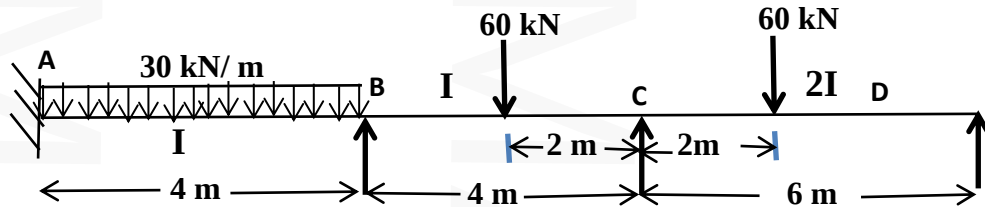

Fig.5
- 15 a) Analyse the continuous beam ABCD consisting of three spans and is loaded as shown in fig.5 Ends A is fixed and D is simply supported. Use slope deflection method and plot the bending moment diagram. 14